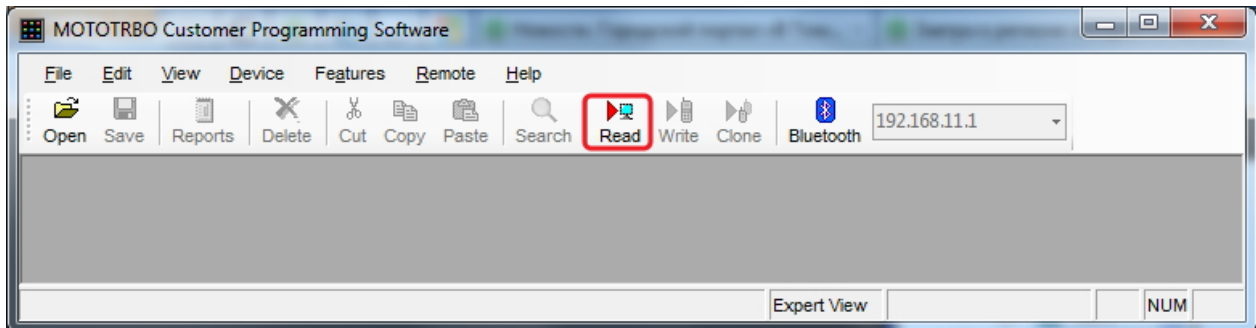

Fig. 2 - Reading device settings in CPS
2. Switch on the device and check its settings by clicking the Read button in the tool bar (Fig.2).